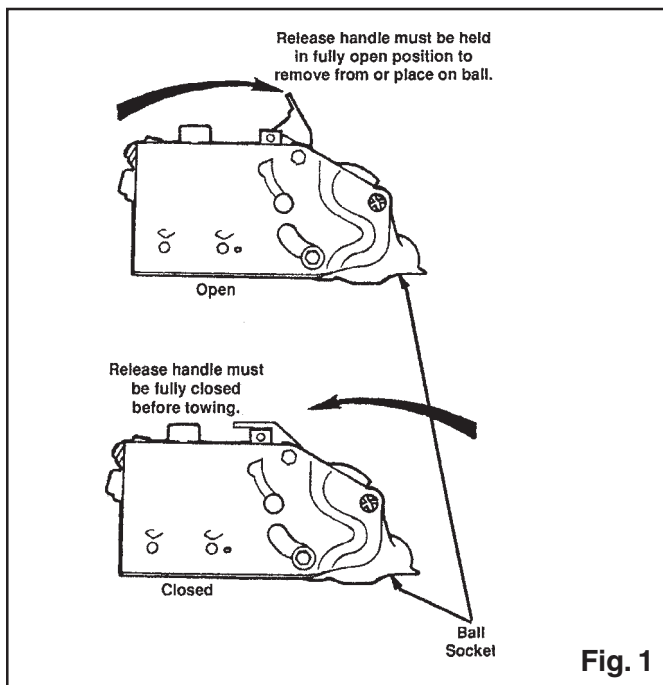

Fig. 1
2. Hold the release handle in the open position (Figure 1).